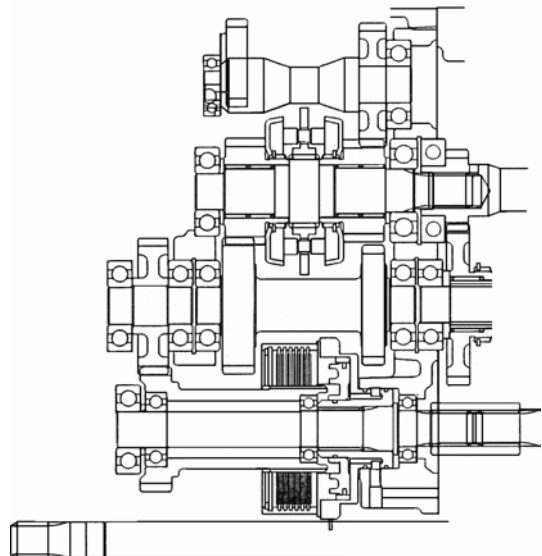

Fig.5-24
a. Draw shaft along with gear(Fig5-24)